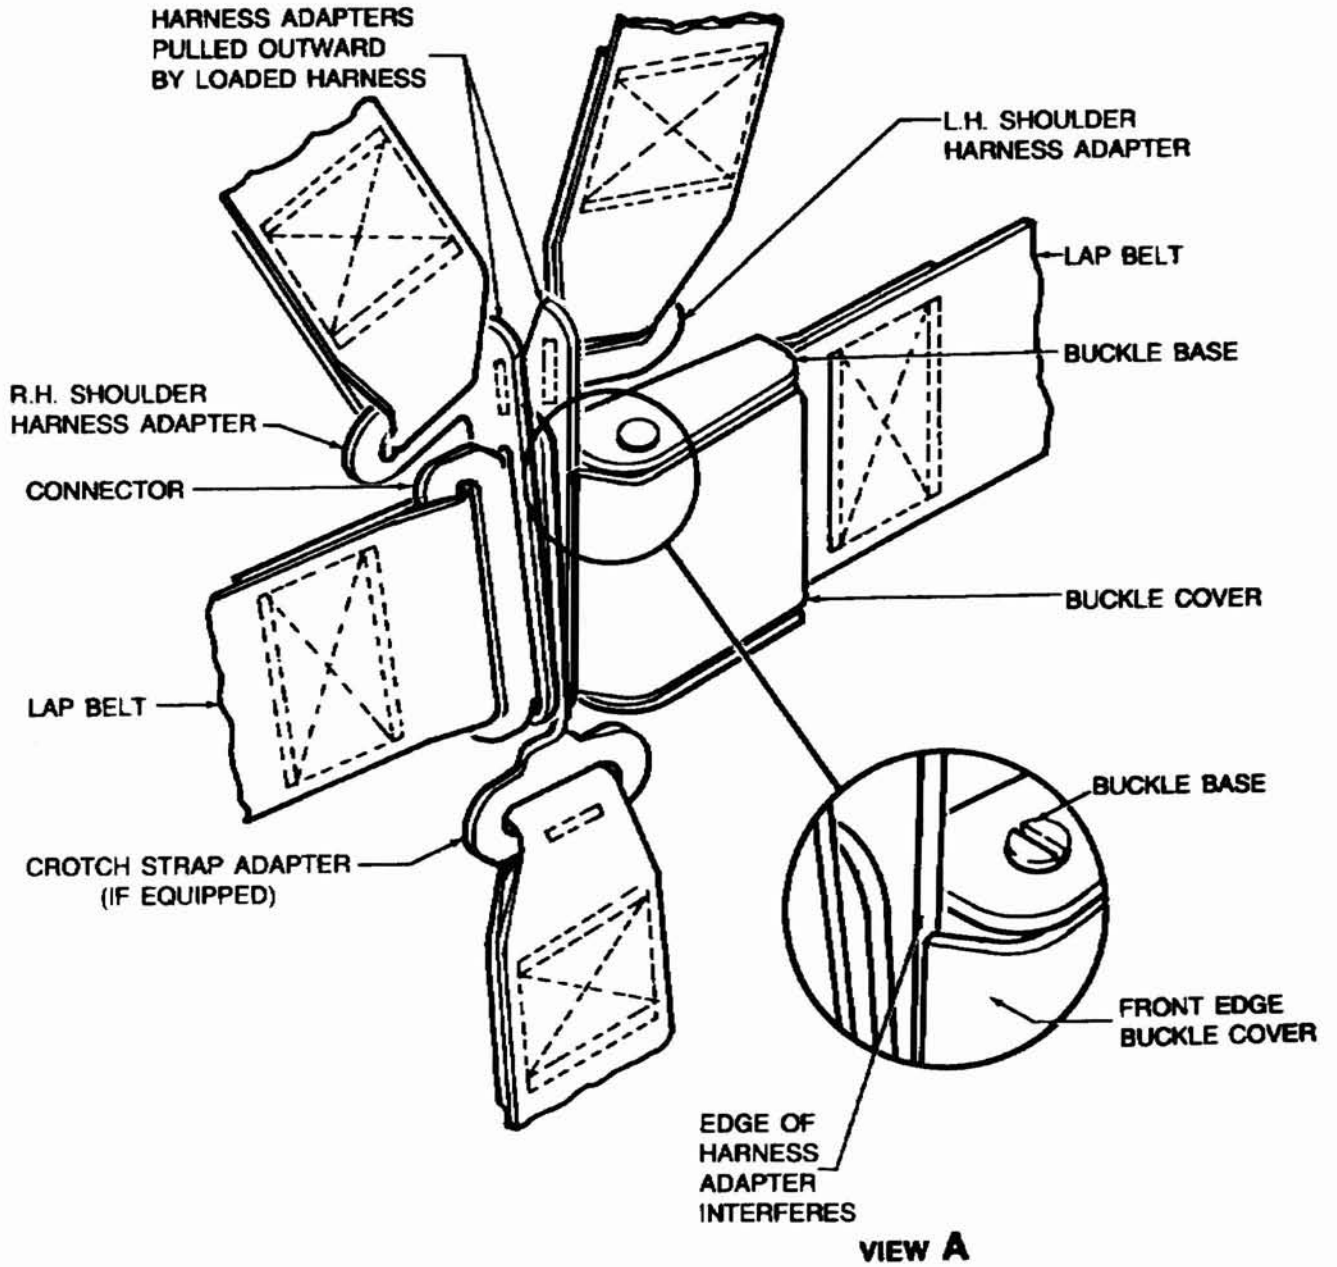
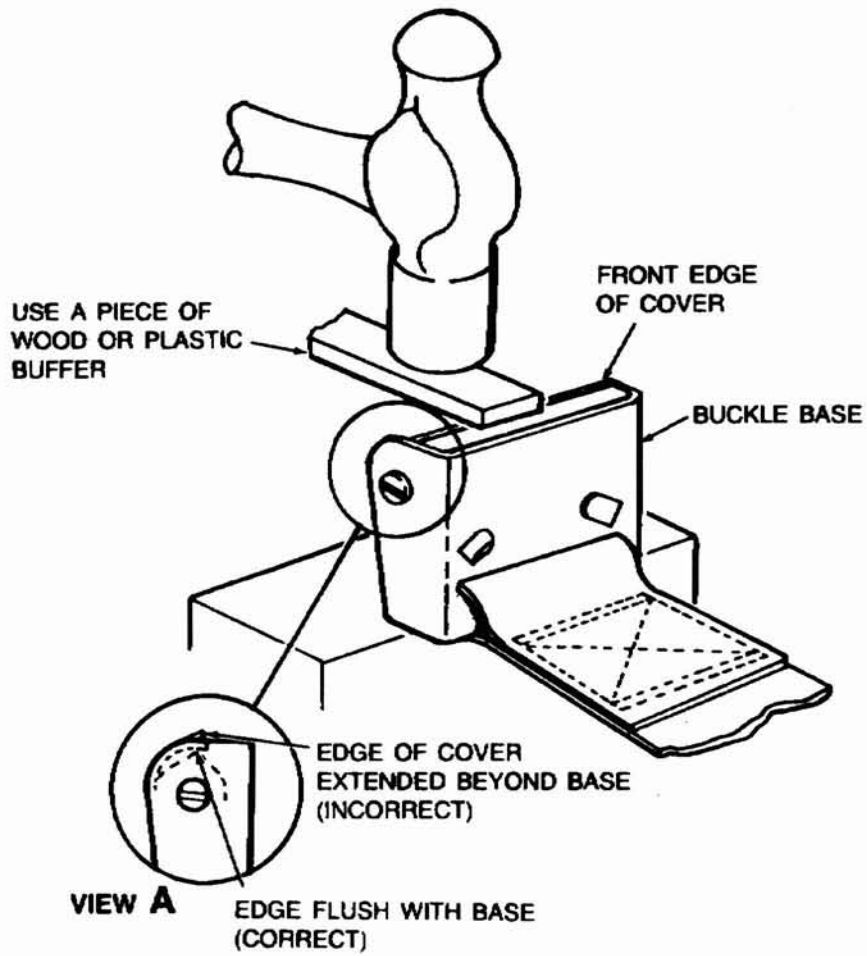

Figure 2
Figure 3
Airplanes listed below which may have lap belt and shoulder harness assemblies manufactured by American Safety Equipment Corporation or Cummings and Sander and have shoulder harness adapters which slide over the connector as shown in Figure 2 in the ACCOMPLISHMENT INSTRUCTIONS.
1. Inspect the lap belt buckles on all seats which have shoulder harness and/or crotch strap adapters that slide over the connector as shown in Figure 2 and determine if the buckles were manufactured by American Safety Equipment Corporation or Cummings and Sander. American Safety Equipment Corporation and Cummings and Sander buckles will have the words "American Safety" or "Cummings and Sander" stamped on the back of the buckle.
- a. Inspect the lap belt buckle cover for proper contour and interference with the shoulder harness and/or crotch strap adapters as shown in Figure 2 and Figure 3. The contour of the cover should follow the curved front edge of the buckle base as shown in Figure 3, View A.
- c. If the buckle cover does not have the proper contour, set the back edge of the buckle base on a firm support and tap the front edge of the cover with a hammer as shown in Figure 3. Use a wood or plastic buffer between the hammer and the cover to reduce the possibility of damage to the cover as shown in Figure 3.